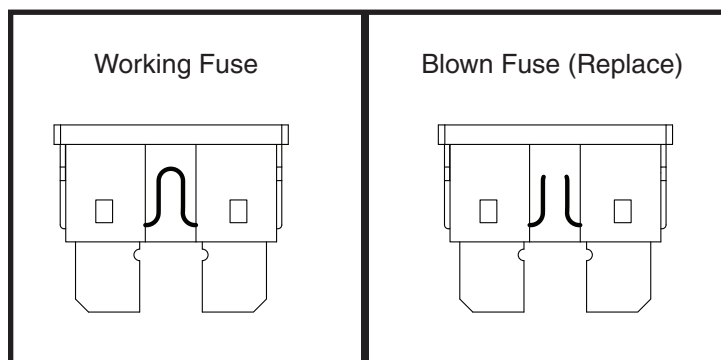

Figure 31. Fuse Replacement
2. Examine the fuse to be sure it is blown. See **figure 31**.